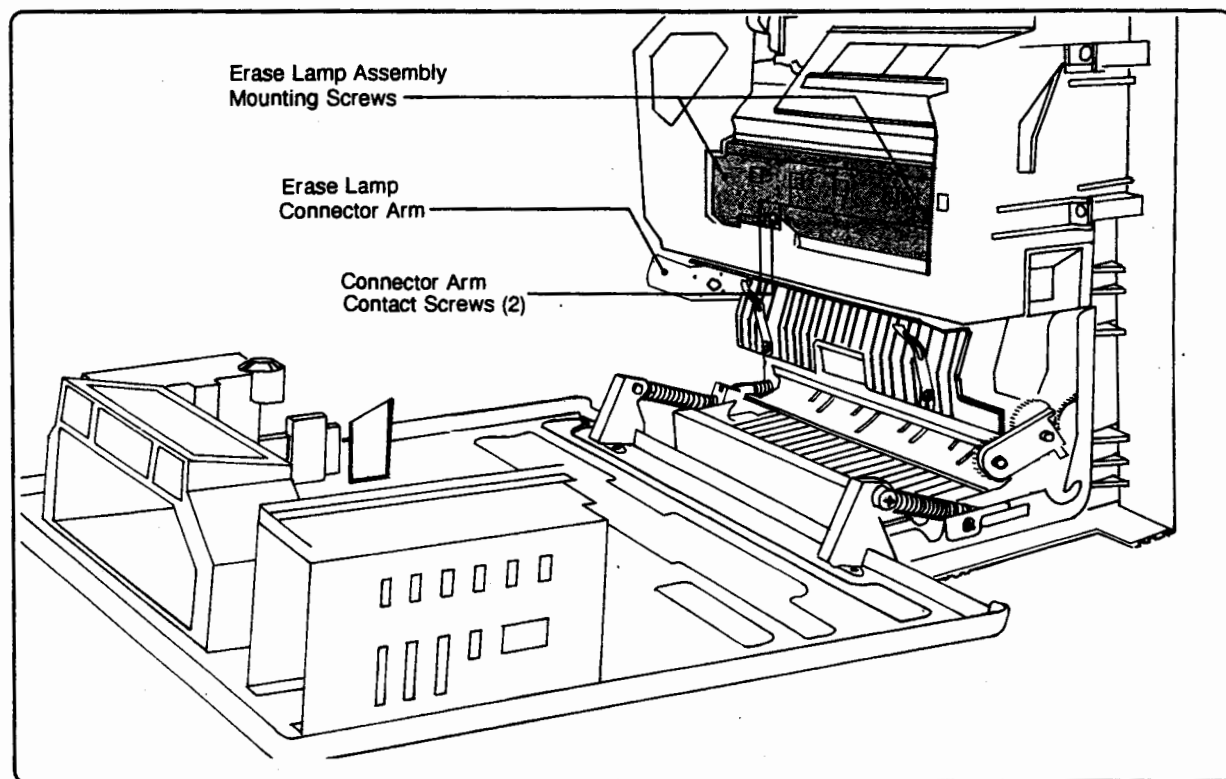

Figure 6-43. Erase Lamp Assembly
3. Remove the screws (2) securing the PCA to the Erase Lamp Connector Arm (see Figure 6-43).
4. Remove the screws (2) on the top face of the Erase Lamp Assembly.
4. Remove the screws (2) securing the Erase Lamp Connector Arm to the Erase Lamp Assembly (see Figure 6-43).